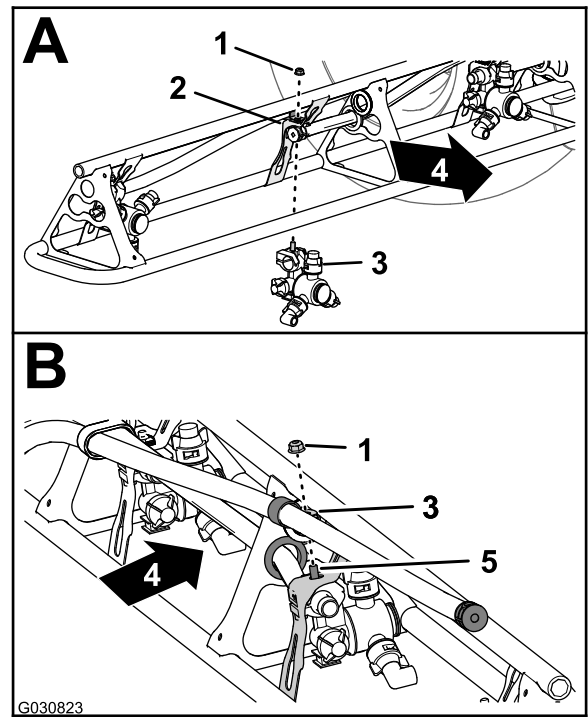

Figure 130
- At the nozzle positions 1 and 4, assemble the sprayer nozzle to the nozzle mount (A of Figure 130) with the flange locknut (5/16 inch) that you removed in step 2 of Removing the Sprayer Nozzles from the Outer-Spray Sections (page 51).
- At the nozzle positions 2 and 3, assemble the sprayer nozzle to the nozzle mount (A and B of Figure 130) with the flange locknut (5/16 inch) that you removed in step 2 of Removing the Sprayer Nozzles from the Outer-Spray Sections (page 51).